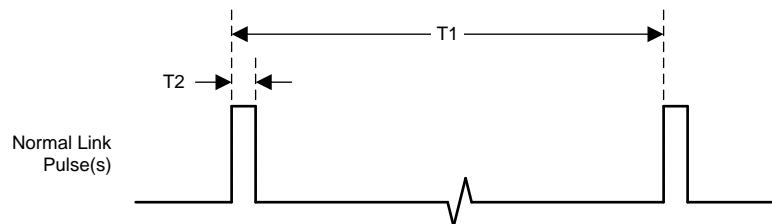
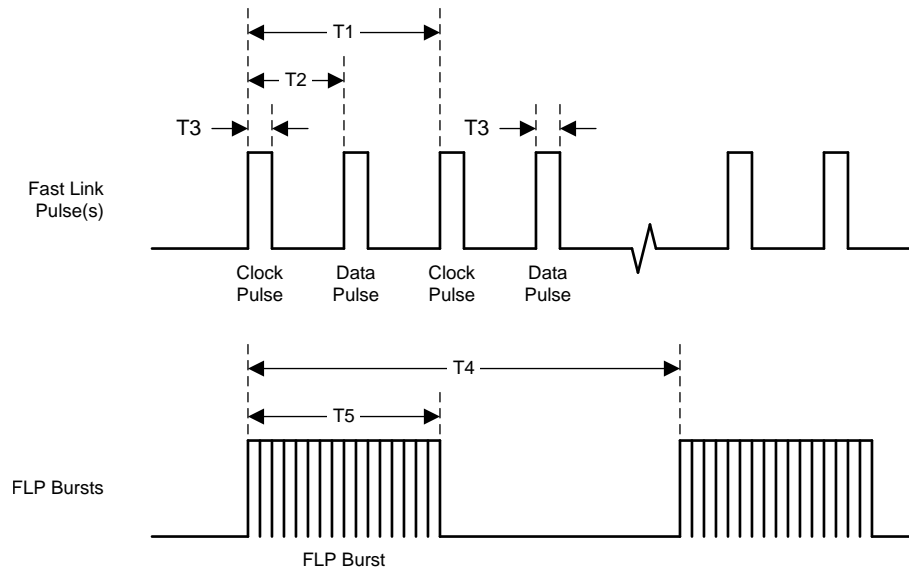

**图 10. RGMII Transmit Timing**
**图 11. RGMII Receive Timing**
(1) Ensured by production test, characterization or design.
(2) See Figure 10 and Figure 11.
(3) When operating without RGMII internal delay, the PCB design requires clocks to be routed such that an additional trace delay of greater than 1.5 ns is added to the associated clock signal.
(4) Device may operate with or without internal delay.
(5) The duty cycle may be stretched or shrunk during speed changes or while transitioning to a received packet's clock domain as long as minimum duty cycle is not violated and stretching occurs for no more than three Tcyc of the lowest speed transitioned between.